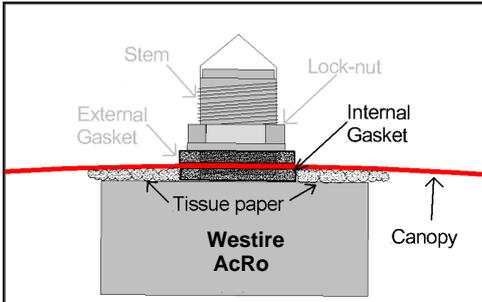

FIG 6 Push the tissue tight around the gasket
- 2) Once satisfied that the sensor is correctly located and tightened stuff some tissue paper around the internal gasket between the AcRo housing and the canopy. Ensure the tissue paper is tightly pressed against the gasket as shown in fig 6.